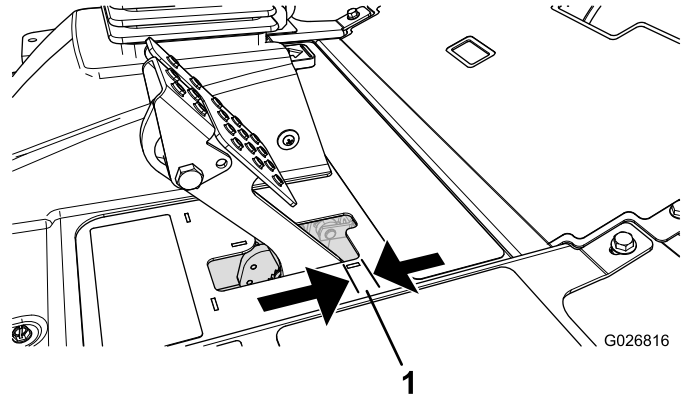

Figure 88
Adjust the brakes when there is more than 2.5 cm (1 inch) of free travel (Figure 88) of the brake pedal, or when more holding force is required. Free travel is the distance the brake pedal moves before you feel braking resistance.
2. Tighten the rear nut to move the cable backward until brake pedals have 0.63 to 1.27 cm (1/4 to 1/2 inch) of free travel (Figure 88), before wheel lock up is achieved.